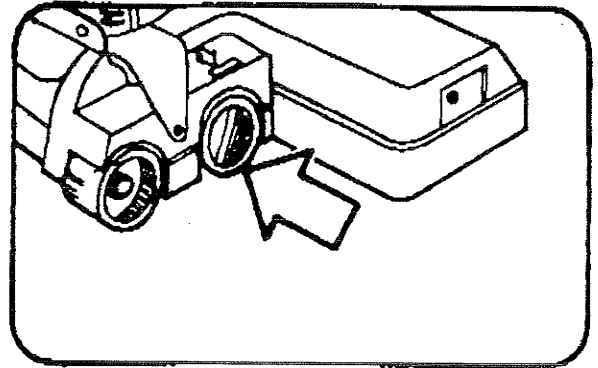

Fig. 2A
2. Adjust the brush height knob to suit the carpet thickness you are working on. See Fig. 2A